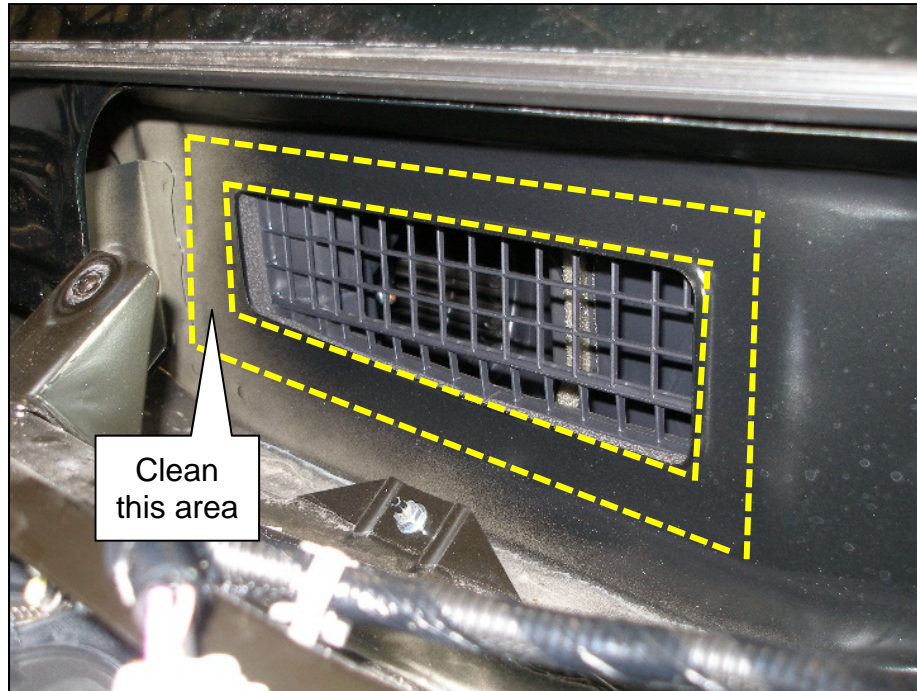

Figure 6
6. Clean the surface around the HVAC intake, where shown in Figure 6, with 90% isopropyl alcohol.